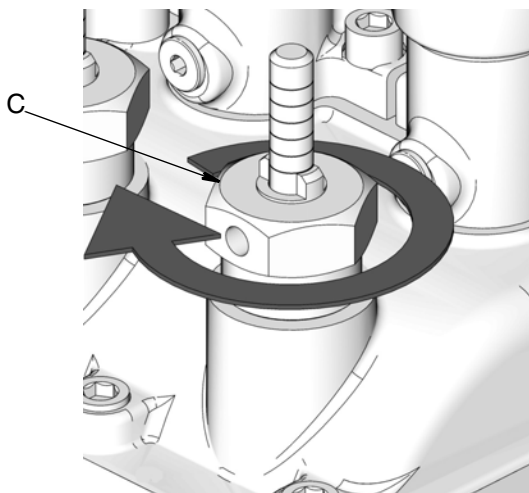

FIG. 4
1. Turn the feed adjustment nut (C) on indicator stem as far as possible in a clockwise direction (FIG. 4).